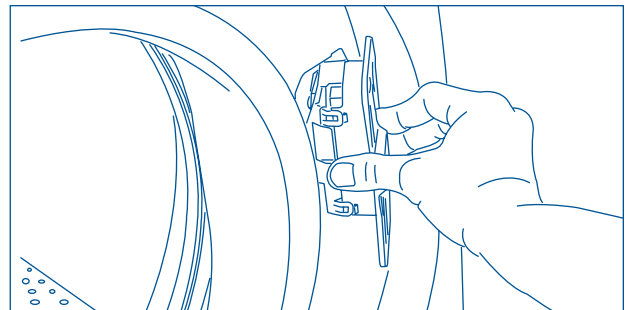

Figure 4-14.
2. Slide the lock toward the outer edge of the front panel. Pivot the lock slightly outward while slowly pulling it through opening to expose the attached harness. (See Figure 4-14)